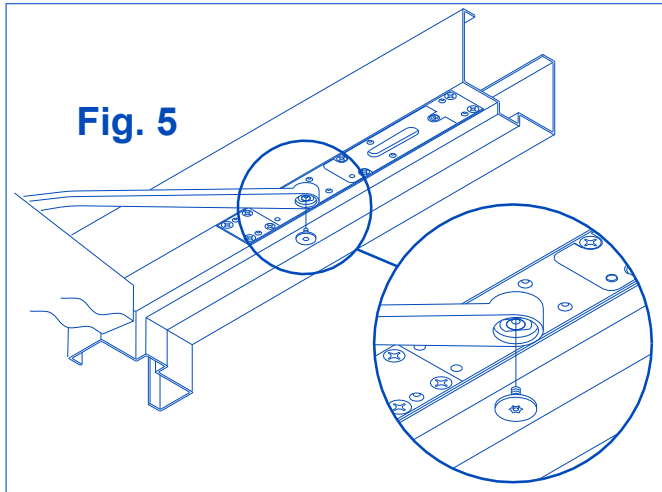

Fig. 5
4. With closer shaft now stationary, move the end of the arm to shaft of closer. Slowly move door so hole in arm lines up correctly with closer shaft. Push arm up into position and insert arm shaft screw, as shown in Fig.5.